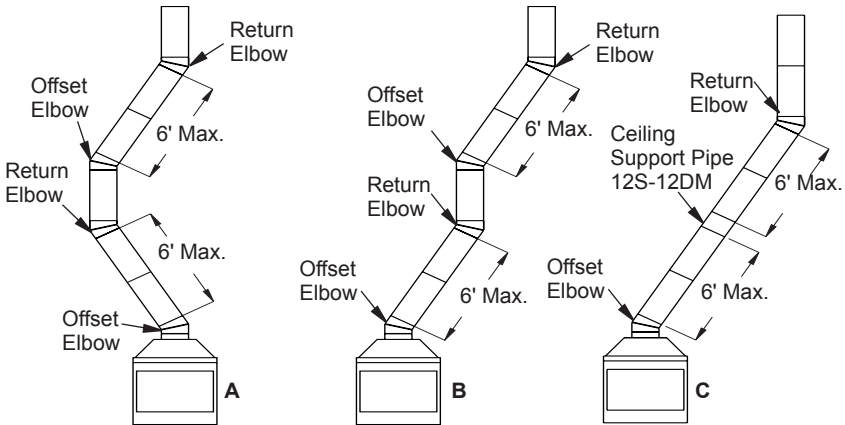

Figure 9 - Typical Offset Terminations
- Maximum length of pipe between supports (return elbow or 12S-12DM) is 6' of angle run. Maximum of two 6' angle run sections per chimney system (see Figure 9, page 8).